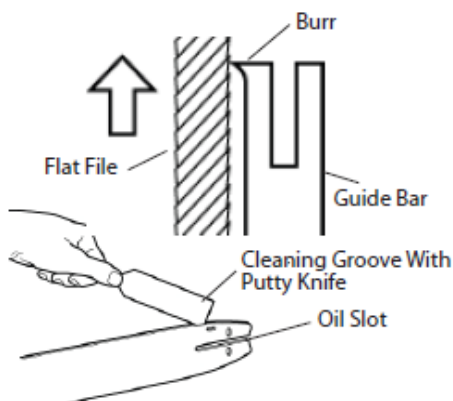

Fig. 4a
- Remove the guide bar (8) from the chainsaw, clean any debris or dust from the surface and the groove.
- Remove any burrs from sides of guide bar with a flat file and clean the groove with a putty knife, see Fig. 4a.